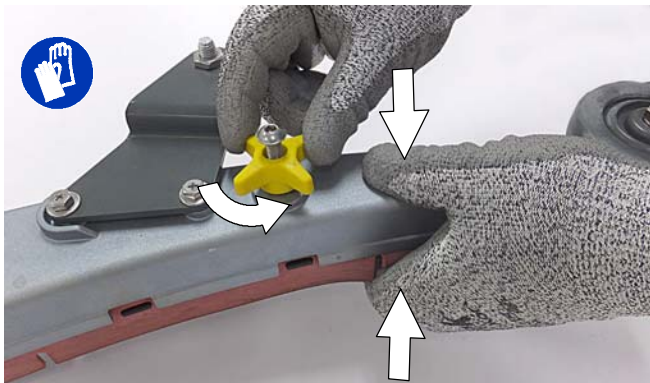

FIG. 89
2. Fully loosen the two outside knobs on squeegee assembly. This will separate the spring loaded blade retainer from squeegee frame (Figure 89). To loosen the knobs quickly, squeeze the blade retainer and squeegee frame together.